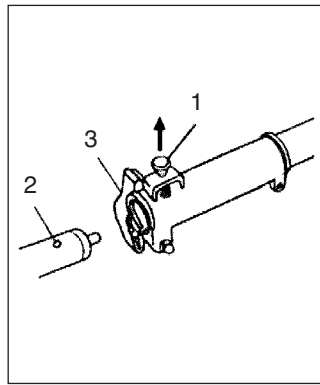

Fig.1-1B
2. Make sure the lock pin (1) fits in the location hole (2) of tube and that the tube will not come off. (Fig. 1-1B)
3. Tighten the knob nut (3) securely. (Fig. 1-1B)